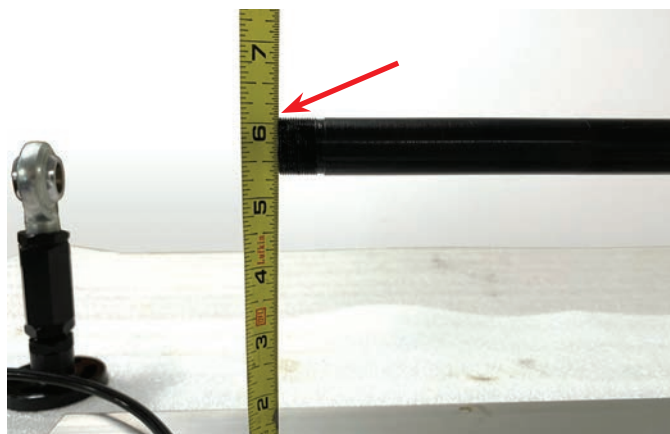

FIGURE 7—High side up.
- C. Turn the tube until the highest side of run out is facing up and measure it (see Figure 7).